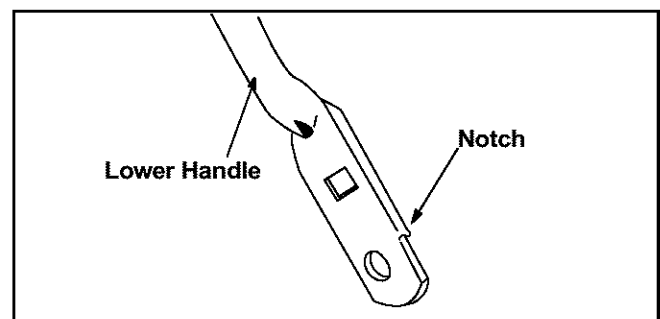

Figure 10
- Turn lower handle around so the notch on the bottom of the lower handle is facing forward. See Figure 10.